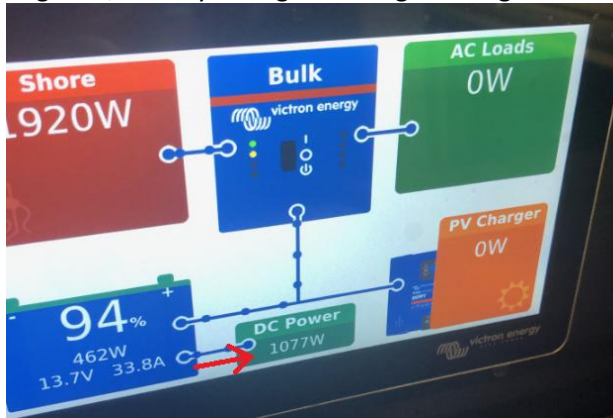

Figure 12
15. To ensure the secondary alternator is functioning as intended, start the engine. At idol, CHG AMPS will be negative, battery voltage will be green. Figure 12